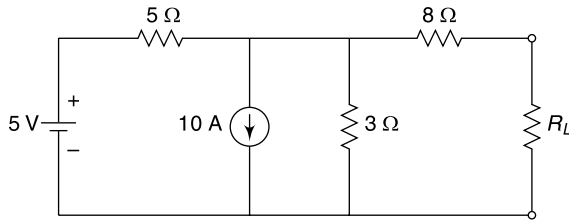

Fig. 14.44
14.66 Determine the Thevenin's equivalent and Norton's equivalent of the circuit shown in Fig. 14.44.